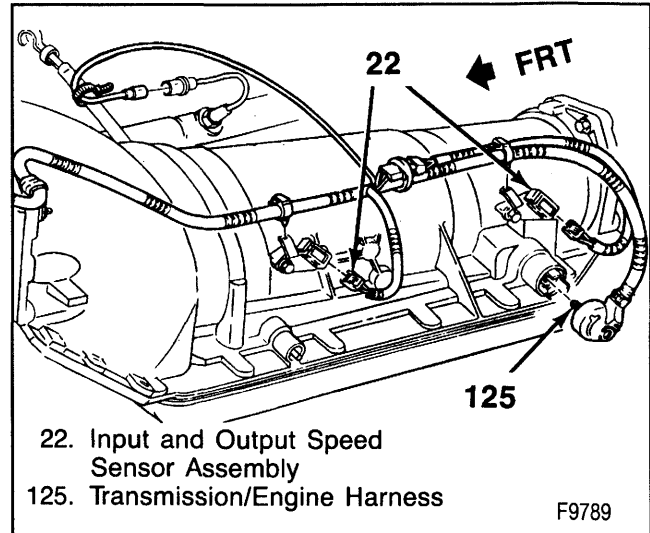

Figure 23—Transmission Exterior Electrical Connections
11. Electrical connectors from the transmission (figure 23).
8. Electrical connectors to the transmission (figure 23).